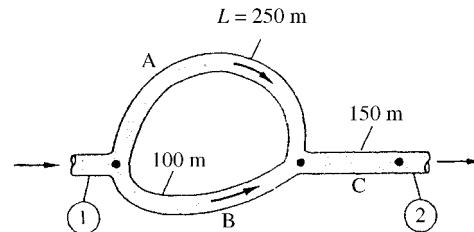

Fig. P6.116
**6.116** For the series-parallel system of Fig. P6.116, all pipes are 8-cm-diameter asphalted cast iron. If the total pressure drop  $p_1 - p_2 = 750 \text{ kPa}$ , find the resulting flow rate  $Q \text{ m}^3/\text{h}$  for water at  $20^\circ\text{C}$ . Neglect minor losses.